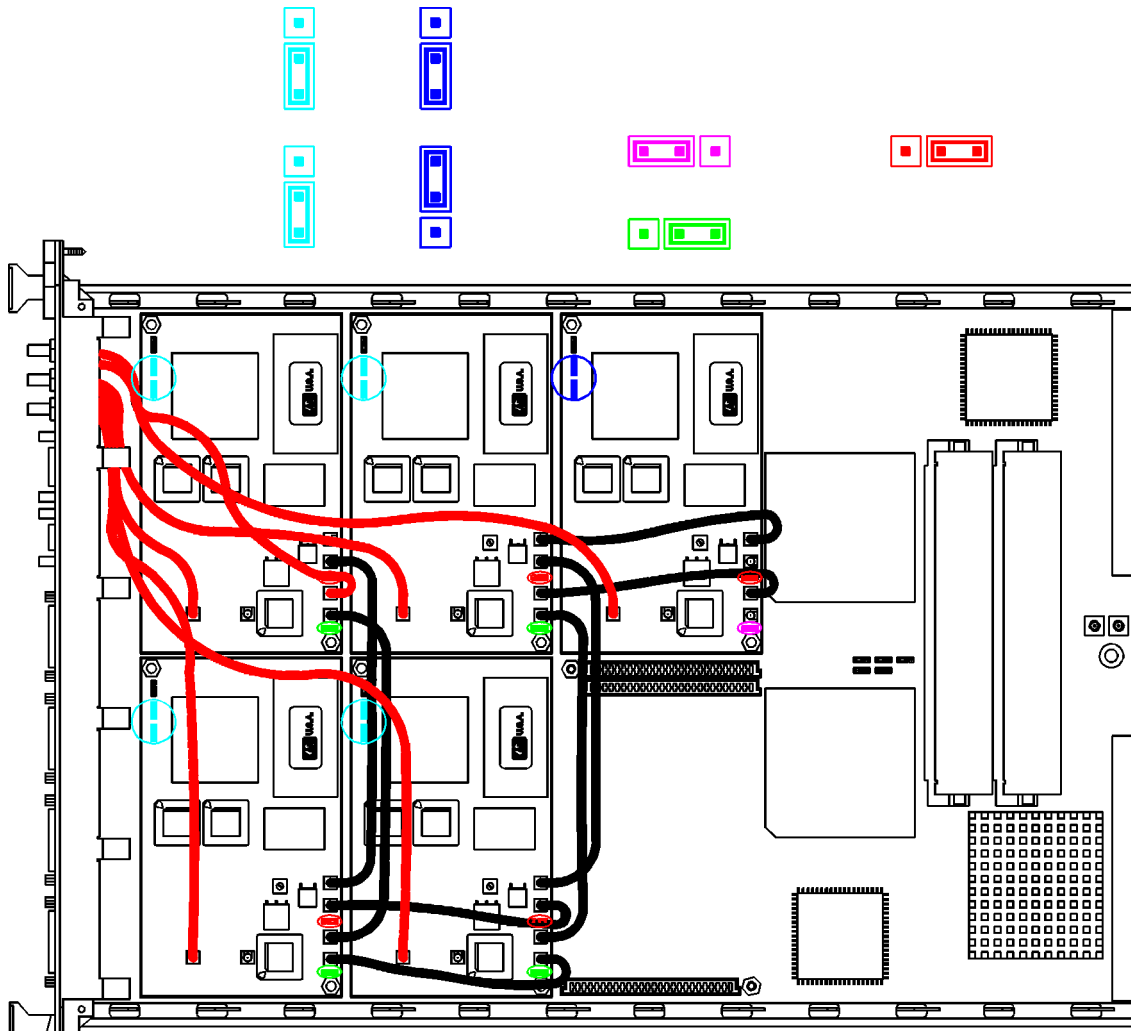

Figure 1-7
- b. If you have more than one HP E2748A, you must carefully plan your cable routing before connecting any cables. The external frequency reference is connected to one HP E2748A, then daisy chained from the first one to the second, from the second to the third and so on. Your routing must allow all HP E2748As to be connected to HP E2748As in adjacent sites rather than HP E2748As in diagonal sites. See Figure 1-7 on page 1-12 for an example of cable routing.
2. If you have more than one HP E2748A, you must carefully plan your cable routing before connecting any cables. The sync line is daisy chained from one HP E2748A to the second, from the second to the third and so on. Your routing must allow all HP E2748As to be connected to HP E2748As in adjacent sites rather than HP E2748As in diagonal sites. If you connected the frequency reference cables in step 1, use the same routing. See Figure 1-7 on page 1-12 for an example of cable routing.
- c. If you have multiple HP E2748As installed in the DSP module, connect a jumper to P10 pins 1 and 2 on the last HP E2748A in the frequency reference daisy chain to terminate the external frequency reference in 50 ohms. See Figure 1-7 on page 1-12 for an example of correct jumper positions.
3. For each HP E2748A installed in sites E, F, G, or H on the DSP module, set the COM port to 5 by connecting a jumper to P5 pins 1 and 2 and to P6 pins 1 and 2. See Figure 1-7 on page 1-12 for an example of correct jumper positions.